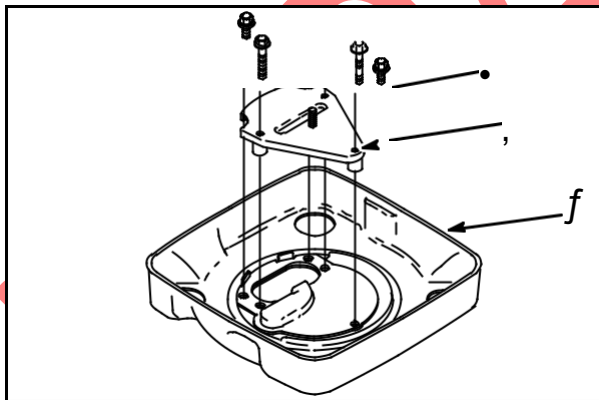

Fig. 5
Remove five screws (1) and carburetor shield (2), Fig. 5.